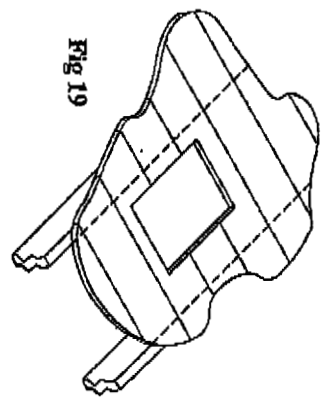

Fig 19
5. Remove shingles or other roof covering as necessary to cut the rectangular hole for the Support Box. Cut the hole 1/8-inch larger than the dimensions of the Support Box (Figure 19). The rectangular hole should be centered on the small hole which you drilled through the ceiling to mark the location. Again, verify that you are not cutting through rafters or framing members.